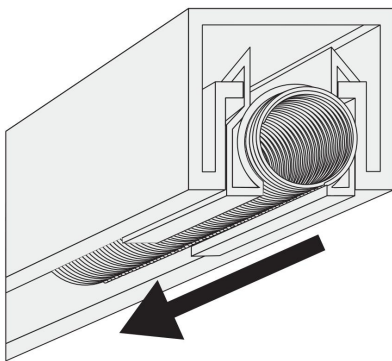

Figure 3
Step 3: Insert guide roller into the other end of track as shown (Figure 3).